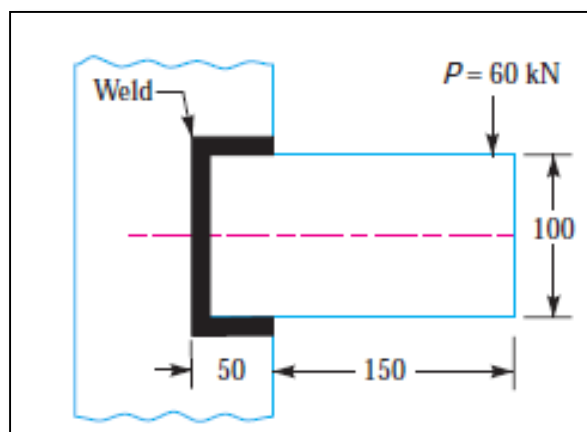

Fig. 1
- 3B. For the above shaft design, draw a line diagram consisting of all forces, reactions, bending moments and torques. (03)
- 4A. A hollow shaft of 0.5 m outside diameter and 0.3 m inside diameter is used to drive a propeller of a marine vessel. The shaft is mounted on bearings 6 meters apart and it transmits 5600 kW at 150 r.p.m. The maximum axial propeller thrust is 500 kN and the shaft weighs 70 kN. Determine: The maximum shear stress developed in the shaft, and the angular twist between the bearings. (05)
- 4B. With a neat sketch, deduce the relation for torque required to raise a load using square threaded screws. (05)
- 5A. Design a double riveted butt joint with two cover plates for the longitudinal seam of a boiler shell 1.5 m in diameter subjected to a steam pressure of 0.95 N/mm^2 . Assume joint efficiency as 75%, allowable tensile stress in the plate 90 MPa; compressive stress 140 MPa; and shear stress in the rivet 56 MPa. (05)
- 5B. A rectangular steel plate is welded as a cantilever to a vertical column and supports a single concentrated load P , as shown in Fig. 1. Determine the weld size if shear stress in the same is not to exceed 140 MPa. (05)